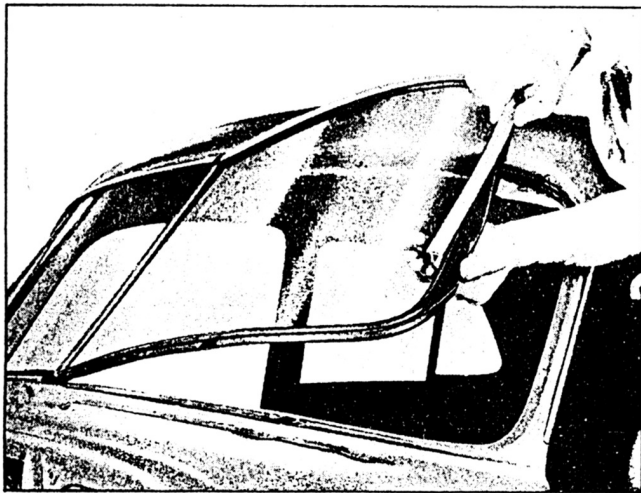

Fig. 14—Removing Upper Reveal Molding
10. With the windshield out of position, curl back the lip of the rubber glass channel and remove the upper reveal molding (fig. 14).